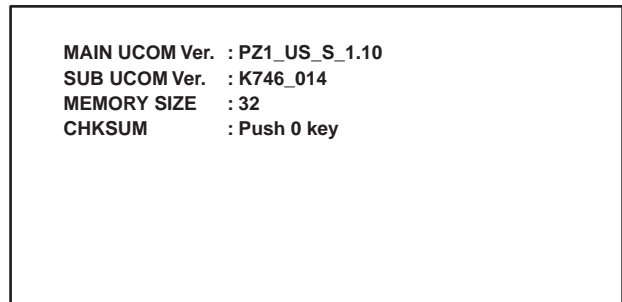

Fig. 2
3. Press "SLEEP" button on the service remote control unit. Fig. 2 appears on the screen.